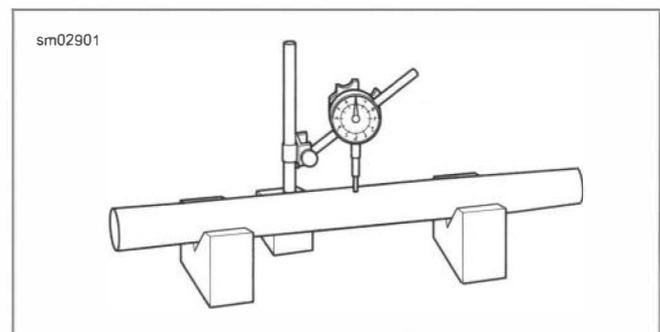

Figure 3-61. Measure Fork Tube Runout
6. See Figure 3-61. Check runout with a dial indicator.